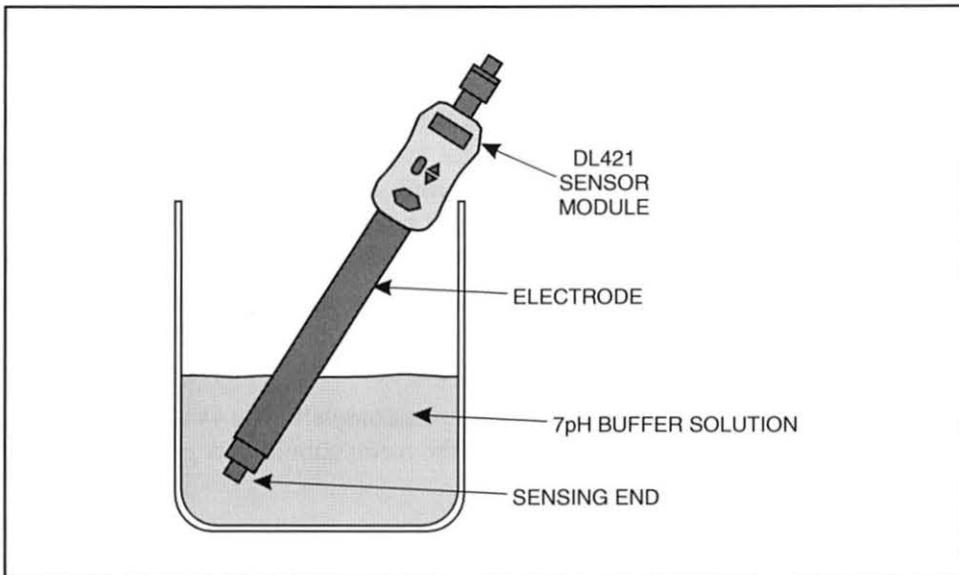

Figure 30. pH Electrode Placed in Buffer Solution (pH = 7)
Step 4: Place the electrode in the 7 pH buffer solution - Make sure you have enough of the 7 pH buffer solution in a container, such as a glass beaker, to completely immerse the sensing end of the electrode. Place the sensing end of the electrode in the buffer solution and hold it there, as figure 30 shows, to allow the electrode to stabilize. This may take one minute or longer.